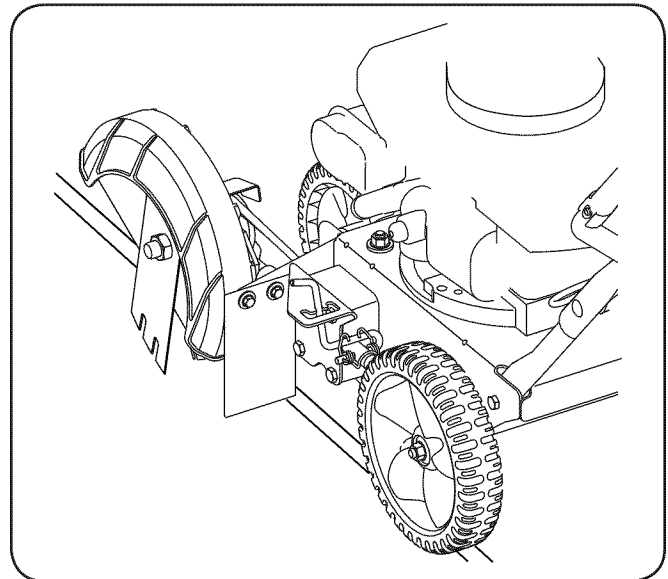

Figure 5-1
1. Move the edger to an area to be edged, making sure that the left rear wheel is on a hard surface and the blade is over the area to be cut. See Fig. 5-1.